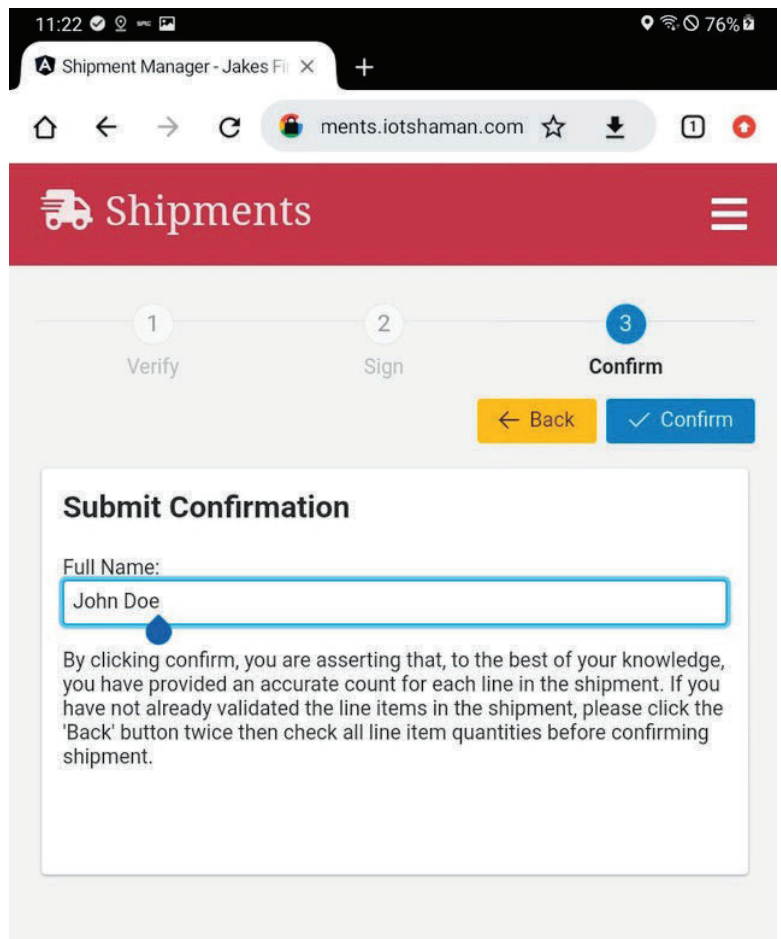

Figure 20
- d. Type your name in the FULL NAME field and click CONFIRM (Figure 20).